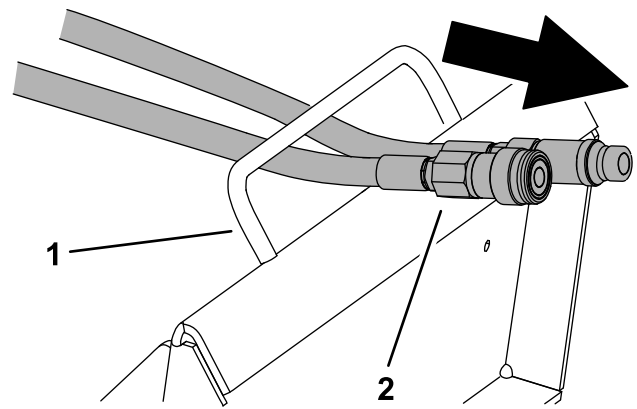

Figure 13
6. Route the hoses through the hose loop (Figure 13).